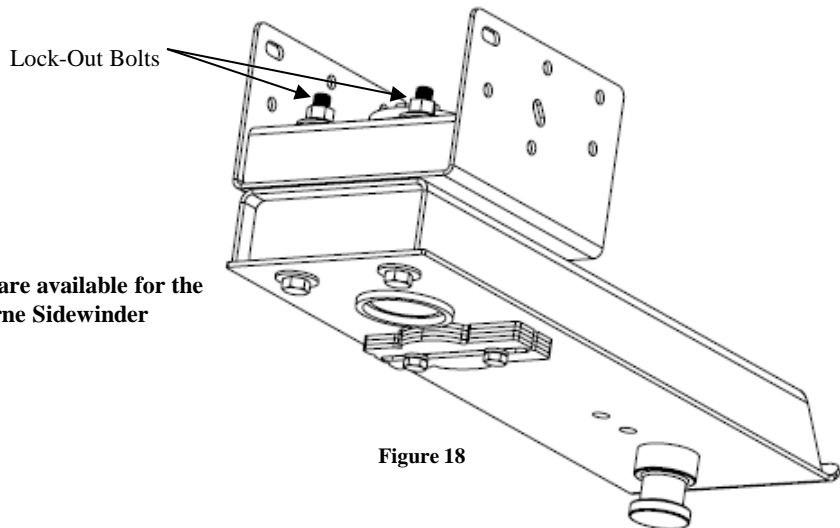

Figure 18
The Sidewinder™ Pin-Box is very versatile and can be used as a standard pin box – Conventional Transport. For conventional transport (2) 3/4" GR 5 Bolts and Hardware are installed in the back of the unit (figure 18), for this application the wedge must be installed. The two bolts prevent rotation and allow use of the pin-box without the wedge installed. These bolts are not included with the 5AS16K.
1. **If Installed** Remove (2) 3/4" Lock-Out bolts and hardware from the rear of the pin-box (figure 18).
2. Remove the universal wedge from it's storage location by removing (2) 5/8-11 X 1 3/4" bolts and lock washers.